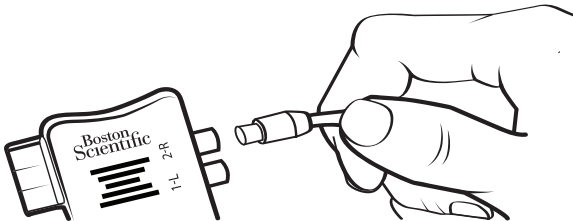

Figure 17. Connection of the 8 Contact O.R. Cable to ETS 2 and ETS Adapter
4. Plug the O.R. Cable with Extension into the ETS Adapter Port labeled “1-L” (Figure 17).